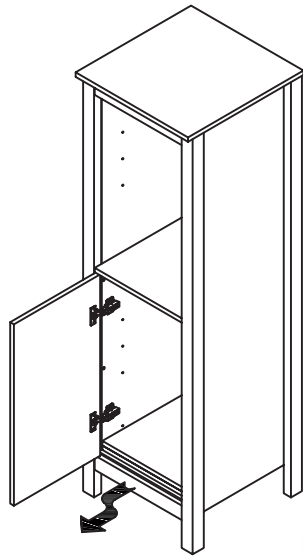

Figure 1
- 1: Once the package is opened, remove the adjustable shelf from bottom of the linen cabinet and remove the pin. Figure 1.